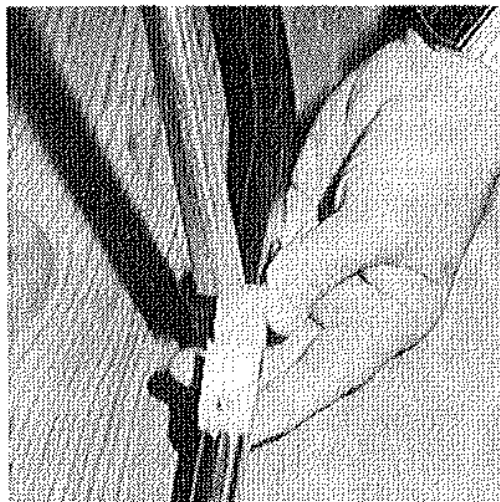

Fig. 5
9. Enter unit and insert bed bow support pole at bow peg. Push bow outward and upward until flat end will slip into bracket mounted onto roof. Fig. 5
3. Remove bow braces from bracket on the roof and pull brace to center of coach. Remove from peg on bed bow. Place braces under bed mattress. Fig. 5